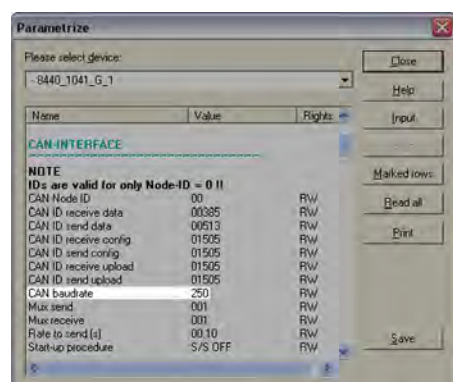

Fig. 171: Baud rate configuration (example LeoPC1)
2. For the first IKD 1 configure the baud rate as shown in (Fig. 171).